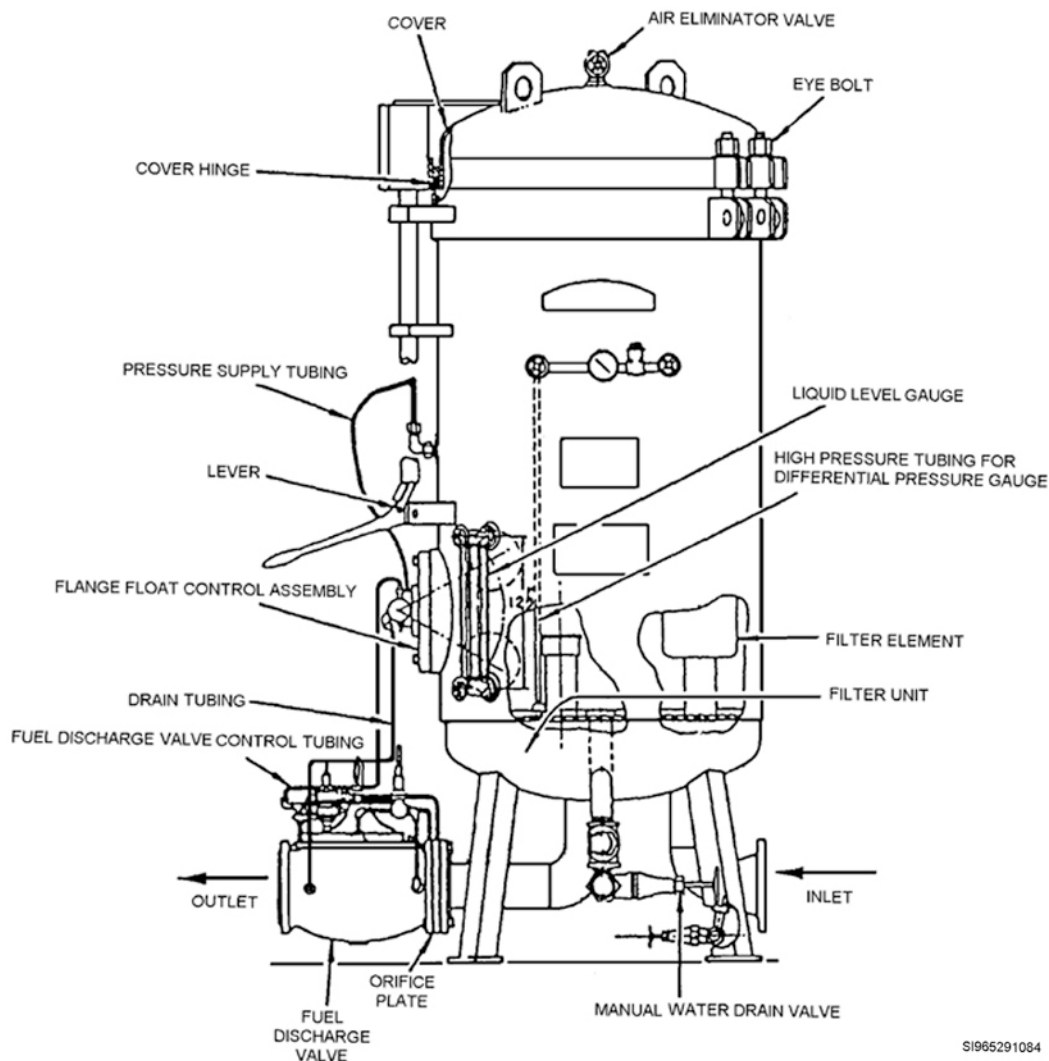

Figure 2-3. MILSPEC vertical F/S.
Figure 2-3 illustrates a typical vertical F/S. The components of this type of F/S are the cover, air eliminator valve (behind the air eliminator is a pressure-relief valve), eye bolt, liquid-level gauge (to determine the water level), gauge tube (for high pressure), differential pressure (DP) gauge, filter